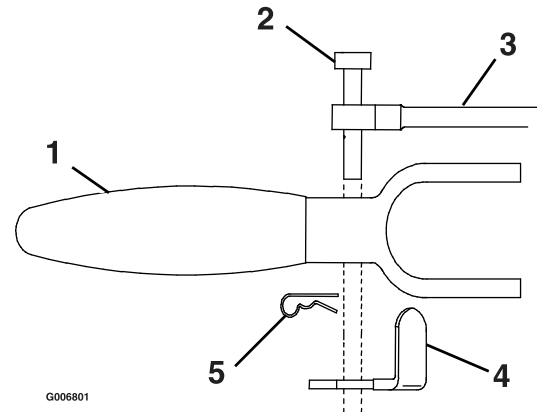

Figure 19
- A. For wheel drive linkage adjustment, remove the hairpin between the neutral lock latch and drive lever (Figure 19).
Allow drive levers to drop into the full forward position: The clevis pin should rest in the neutral lock latch with approximately 3/16 inch to 1/4 inch (4.7–6.4 mm) clearance from the bottom of the slot (see Figure 19). Adjust if necessary.
- C. Re-install hairpin into hole on the clevis pin between the neutral lock/park brake latch and drive lever (See Figure 19). Repeat procedure on opposite side of unit.